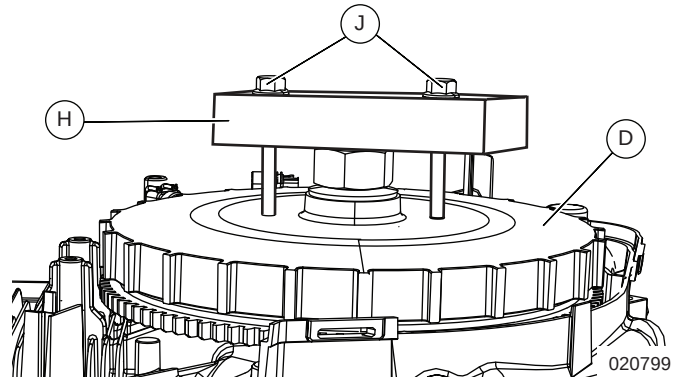

Figure 6-31. Install Flywheel Puller
4. See Figure 6-31. Install flywheel puller (H) using two M8 x 1.25 mm bolts (J).